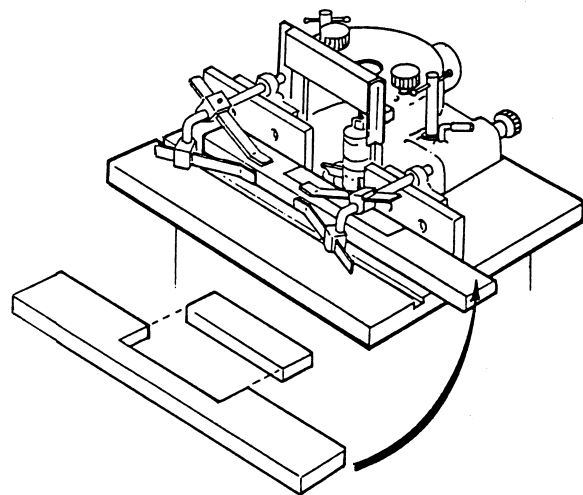

Figure 24
When edge shaping, never attempt to hand guide any stock less than 12 inches long, or narrower than 3 inches without the use of a special guide as shown in Figure 24.
1. Use the hold-ins and hold-downs as shown in Figure 24 to firmly hold the workpiece down and against the fence. If workpiece is too wide for the hold-ins to be used, clamp a scrap board to the table to substitute for the hold-ins.